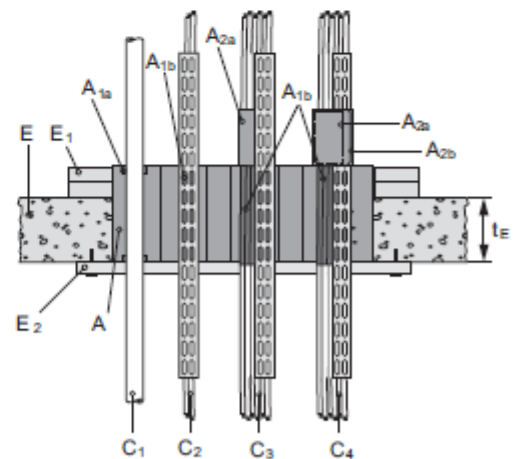

Figure 12: floor penetration
Penetrating services (C_1) with or without support tray within the seal, see Figure 12 of the ETA.
Penetrating cables (C_2, C_3, C_4) with or without support tray within the seal, see Figure 12 of the ETA.
<ul style="list-style-type: none"> – $\varnothing \leq 16$ mm, wall thickness ≥ 1 mm, arranged linear, with or without cables, with or without cable supports, minimum distance to each other = 0 mm – Penetrating services (C₁) with or without support tray within the seal, see Figure 12 of the ETA
<ul style="list-style-type: none"> – Hilti Firestop Blocks CFS-BL (A) of thickness $t_A \geq 200$ mm, flush with the soffit of the floor (E); aperture framing or beading (E₁) according to Annex C.1.2 of the ETA. – Metal pipes (C₁), see Figure 12 of the ETA. – Metal pipes with mineral wool insulation, minimum density 85 kg/m³, minimum thickness 20 mm (up to $\varnothing 54$ mm) or 30 mm ($\varnothing > 54$ mm) – Additional insulation, mineral wool mat wrapped around the service, minimum density 85 kg/m³, minimum thickness 20 mm (up to $\varnothing 54$ mm) or 40 mm ($\varnothing > 54$ mm) over a length of 300 mm (up to $\varnothing 54$ mm) or 500 mm ($\varnothing > 54$ mm)
<ul style="list-style-type: none"> – Hilti Firestop Blocks CFS-BL (A) of thickness $t_A \geq 200$ mm, flush with the soffit of the floor (E); aperture framing or beading (E₁) according to Annex C.1.2 of the ETA. – Metal pipes (C₁), see Figure 12 of the ETA. – Metal pipes with flexible elastomeric foam insulation according to EN 14304, thickness 8,5 to 43 mm. – Additional insulation, Armaflex mat wrapped around the service, thickness 19 mm, over a length of 300 mm or 500 mm
<ul style="list-style-type: none"> – Hilti Firestop Blocks CFS-BL (A) of thickness $t_A \geq 200$ mm, flush with the soffit of the floor (E); aperture framing or beading (E₁) according to Annex C.1.2 of the ETA. – Metal pipes (C₁), see Figure 12 of the ETA. – Metal pipes with flexible elastomeric foam insulation according to EN 14304, thickness 8,5 to 43 mm. – Additional insulation, mineral wool mat wrapped around the service, thickness 30 mm, over a length of 500 mm
- Hilti Firestop Blocks CFS-BL (A) of thickness $t_A \geq 200$ mm, flush with the soffit of the floor (E); aperture framing or beading (E1) according to Annex C.1.2 of the ETA.
- Metal pipes (C1), see Figure 12 of the ETA.